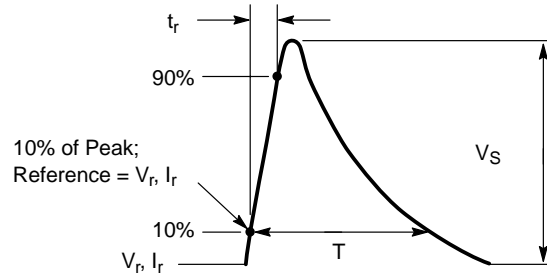

Figure 3. Load Dump Waveform Definition
3. Non-repetitive load dump pulse per Figure 3.